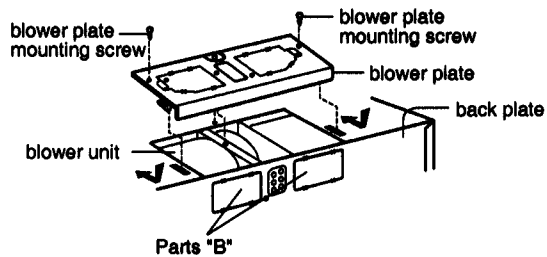

Figure 19
5. Reattach blower plate to microwave oven. Attach with two blower plate mounting screws. See Figure 19.